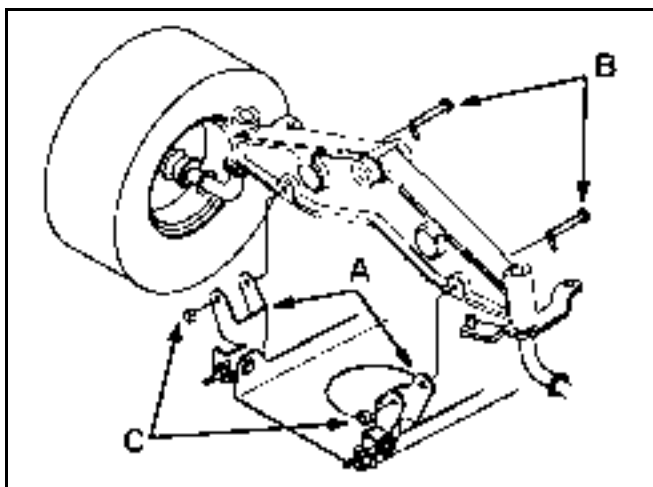

Figure 229
9. Remove the bolts and lock nuts and pull the two mower pivot mount brackets down from the front axle (Figure 229).